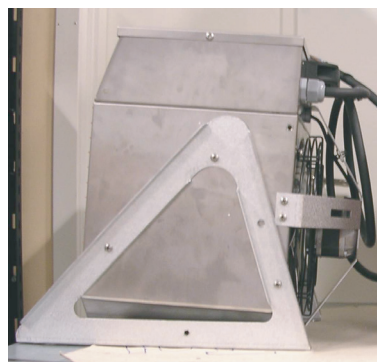

Fig. 6
6. Mount the brackets on the fan according to Fig. 6 page 3.